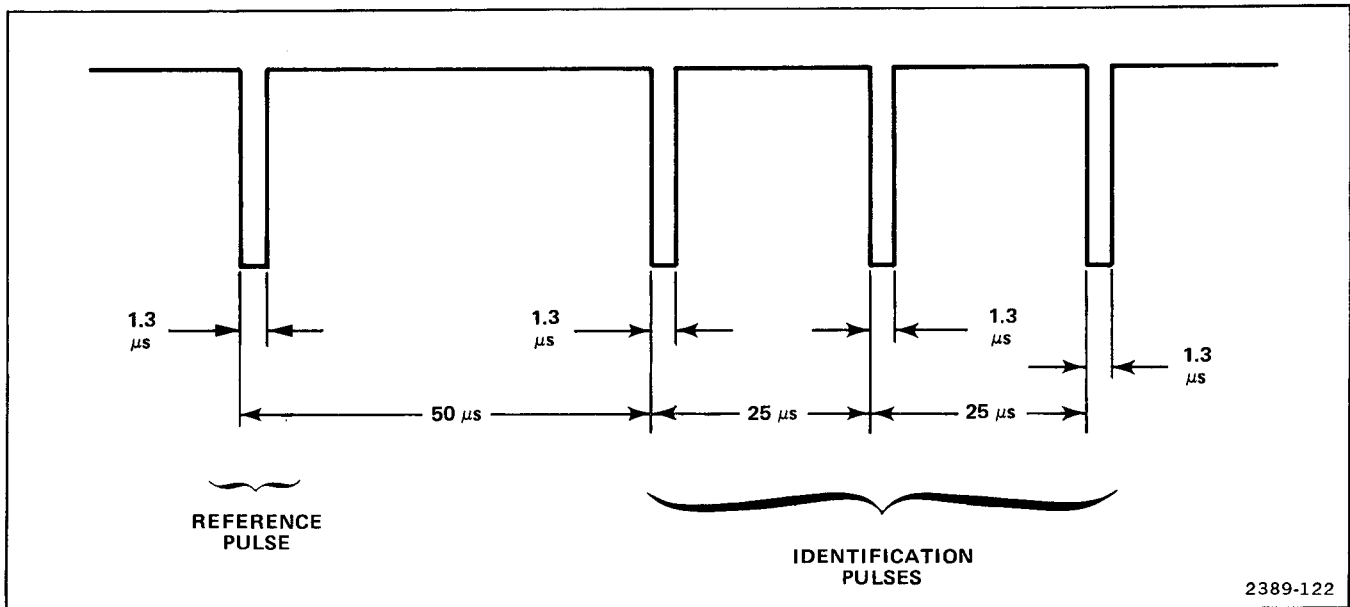

Figure 6-5. Example of reference pulse and identification pulses for Self Test Routine 5.
**NORMAL DISPLAYS.** A normal display consists of a measurable frequency or a waveform consisting of a reference pulse and number of identifier pulses. The frequency and number of identifier pulses, and their respective test points, are listed in Table 6-5. A sample waveform of the reference pulse and identifier pulses is shown in Figure 6-5.